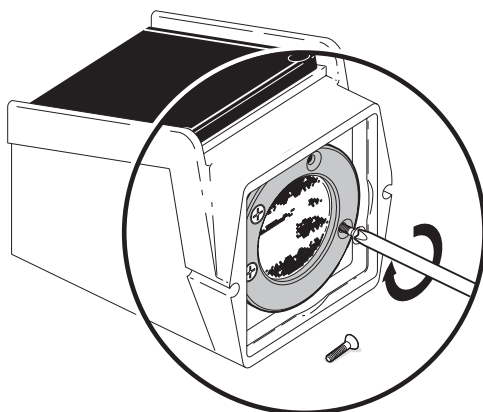

Figure 11-16. Replace and Tighten Mounting Screws
6. Place the black Retaining Ring over the Transducer assembly with the beveled edges out and the flat surface against the Sonic Tracker II base. Line up the holes for the mounting screws. The mounting screw holes are set to an irregular pattern, ensuring the retaining ring only lines up with the mounting holes one way (Figure 11-16 on page 11-16).
7. Start the mounting screws into the holes and tighten each until firm (Figure 11-16 on page 11-16). **DO NOT OVER TIGHTEN.** Use a cross (X) pattern when tightening the screws.